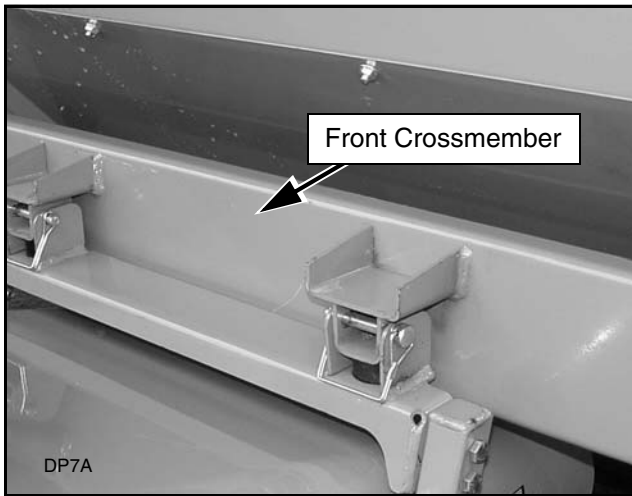

Figure 3. Side Panel & Front Crossmember Installed
1. Install front crossmember (16) between right and left side panels. Install crossmember with brackets facing forward as shown in Figure 3.